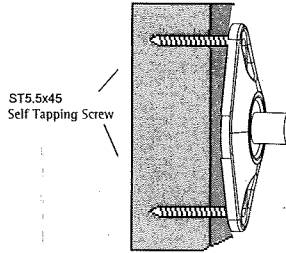

Figure 7
NOTE: In wall mounting applications position mounting holes in a vertical pattern (Figure 7).
- Drill holes through the drywall and into the wood stud using a 1/8" drill bit. These holes should be drilled 1-7/8" deep (Figure 7).